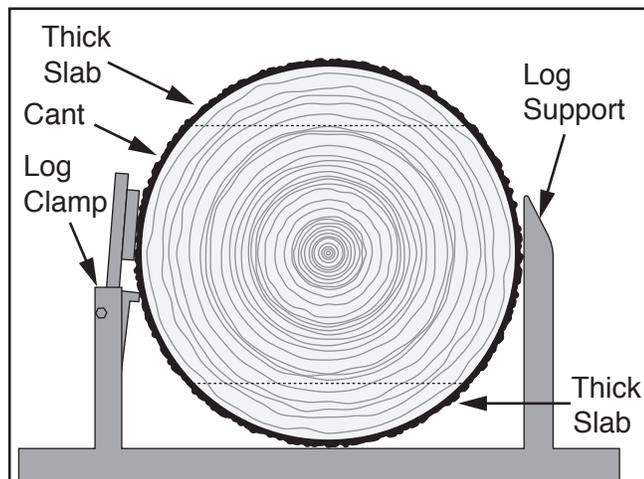

Figure 89. Thick slabs to be removed from log.
3. Cut a thick slab and remove it from log (see **Figure 89**). Set slab aside for now.
4. Rotate log 180° and secure it. Cut a slab about the same size as the first one (see **Figure 89**). To reduce waste, make sure the distance between cuts—the height of the resulting cant—is divisible by the thickness of lumber to be produced. Set slab aside for now.